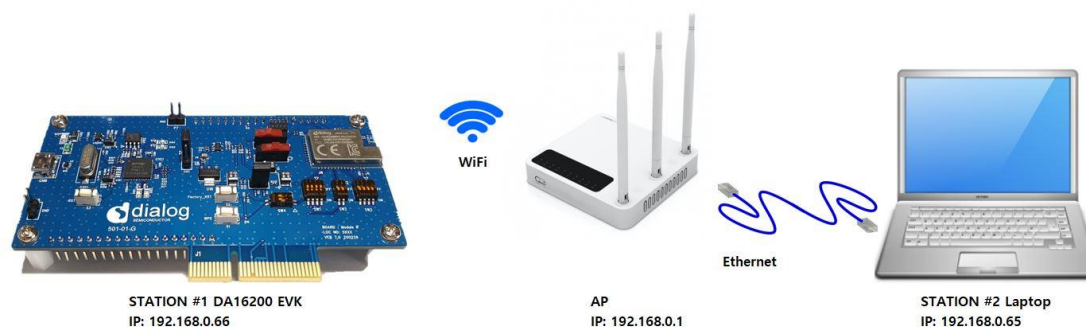

Figure 54. Ping test environment
The ping communication test requires an access point (AP) and two stations consisting of a DA16200 or DA16600 EVB and a desktop. The two stations must be connected to the same subnetwork AP as shown in Figure 54.